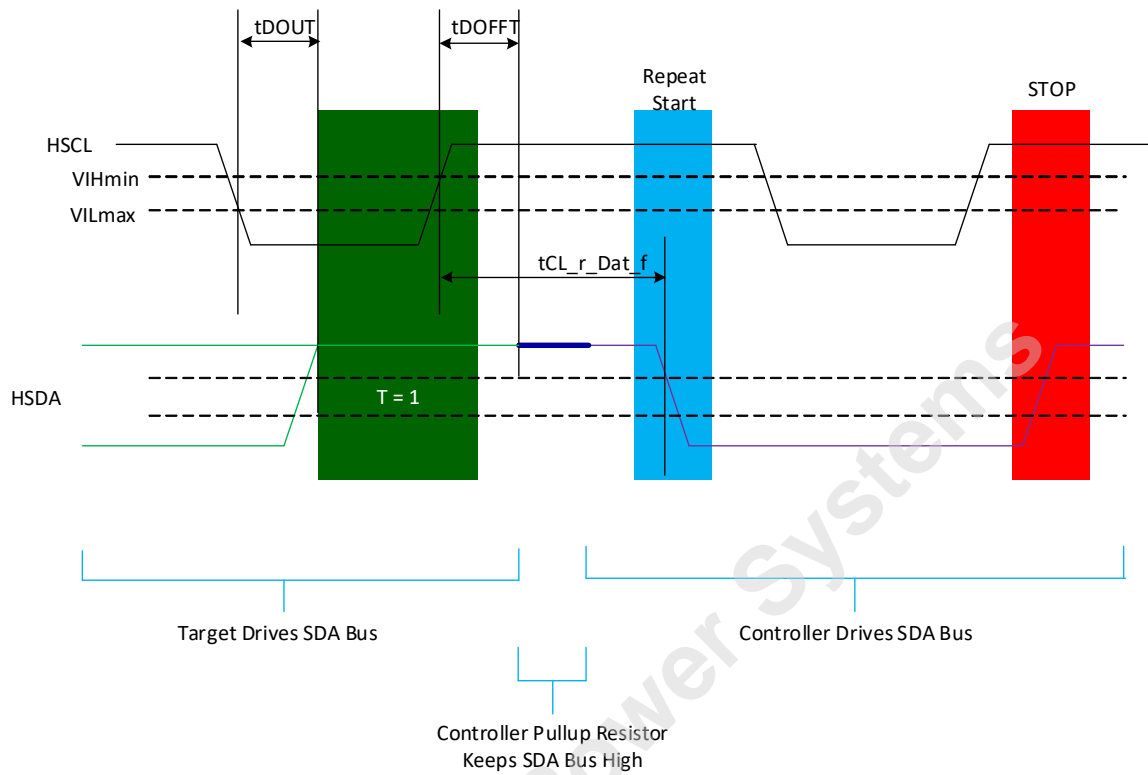

Figure 25 — T=1; Controller Ends Read with Repeated START and STOP Waveform
- NOTE 2 See Figure 25 to see how Host ends target device operation.
- NOTE 4 See Figure 25 to see how Host ends target device operation.